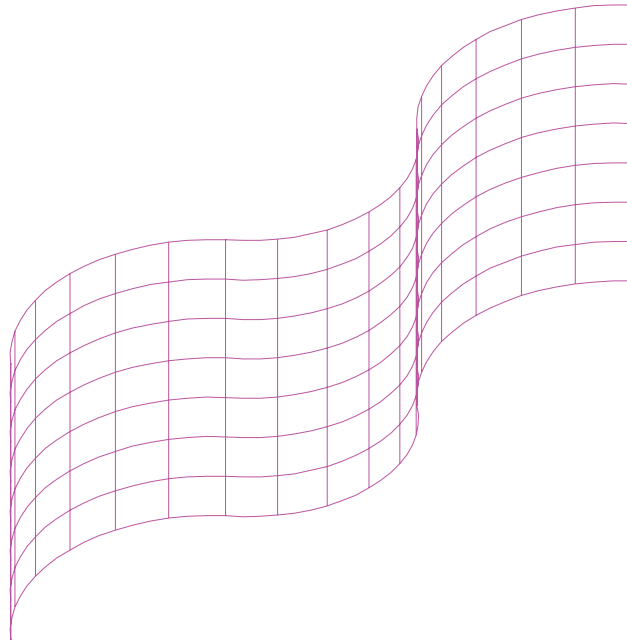

Fig. 14.41 First example – **3D Surface**
As mentioned on p. 228, surfaces can be formed using the **Extrude** tool on lines and polylines. Two examples are given below in Figs 14.41 and 14.43.
First example – 3D Surface (Fig. 14.41)
2. In the **ViewCube/Isometric** view, call the **Extrude** tool from the **Home/3D Modeling** control and extrude the polyline to a height of **80**. The result is shown in Fig. 14.41.